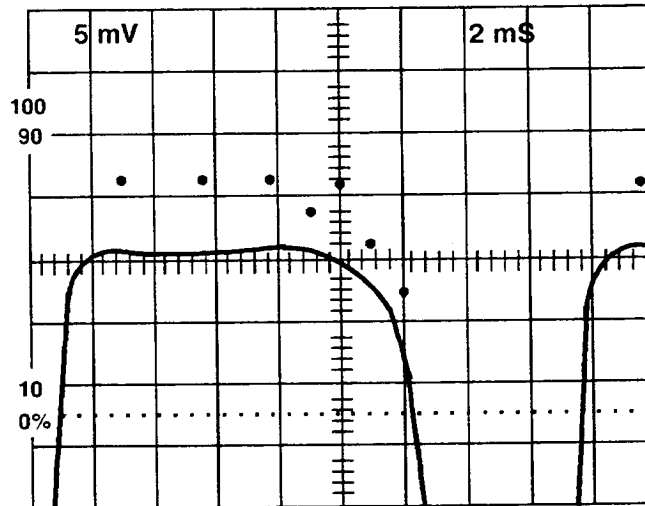

Figure 7-14: Adjusting for rolloff
- m. Adjust A4L3 so that the filter rolls off smoothly, beginning at 5 MHz. Typically, the roll off is 5 – 10 mV. See Figure 7-14.